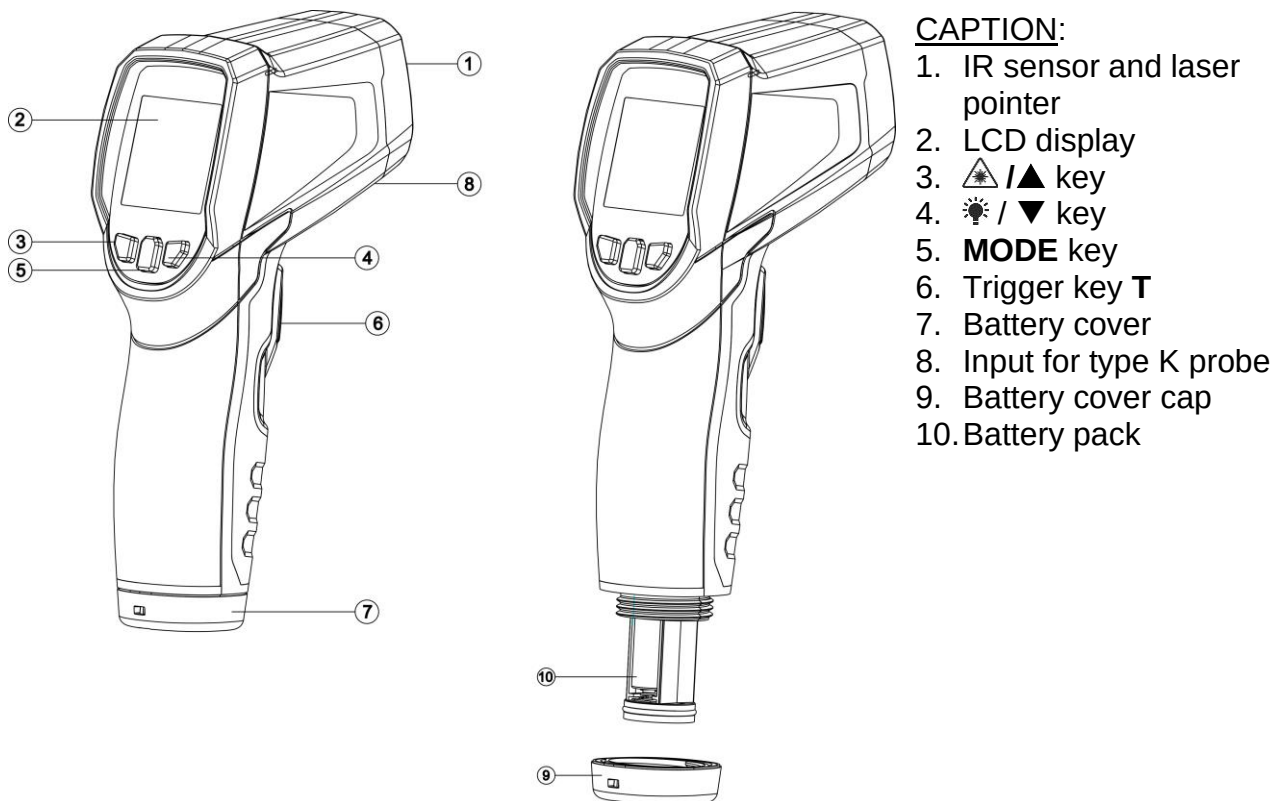
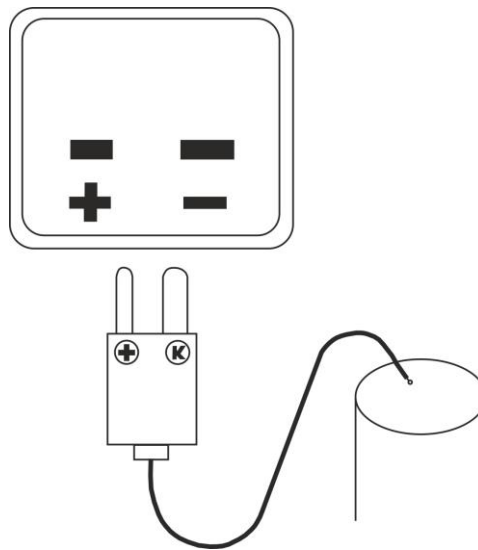

Fig. 1: Description of the instrument's parts
Fig. 5: Connection of K-type probe in the instrument
The Trigger key **T** (see Fig. 1 – part 6) allows the following operations:
1. Open the protection cap of K-type input terminal (see Fig. 1 – part 8) and connect the K-type probe respecting the indicated polarities (see Fig. 5)